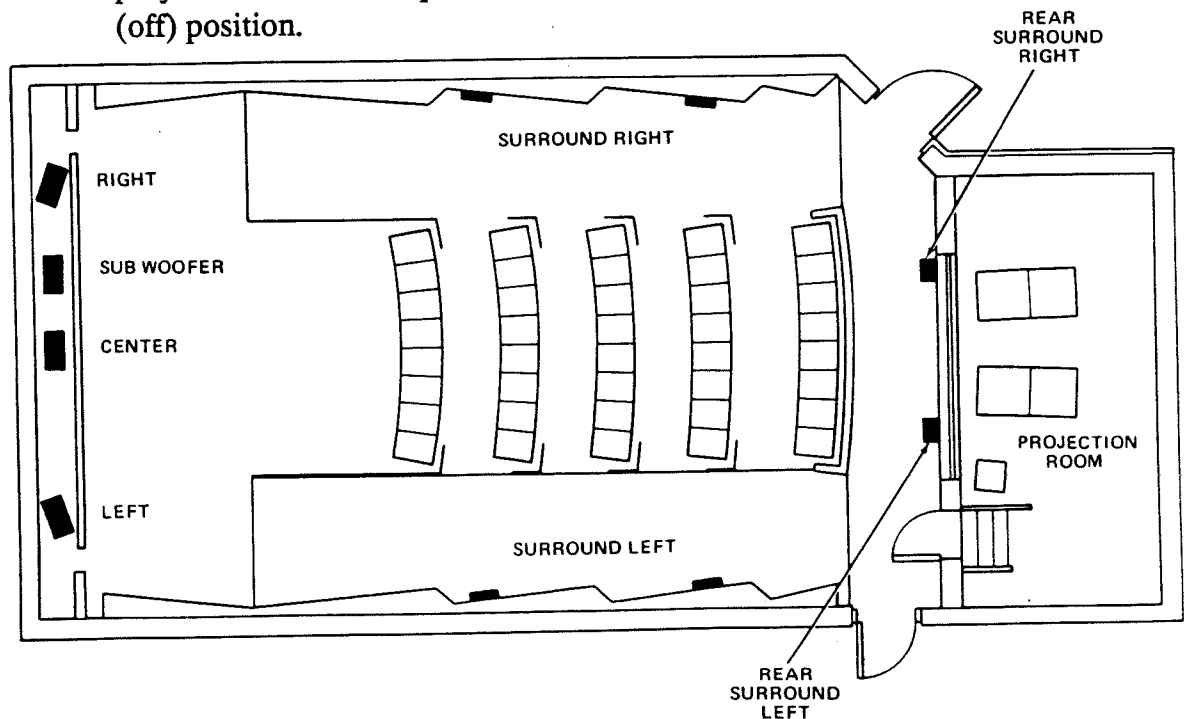
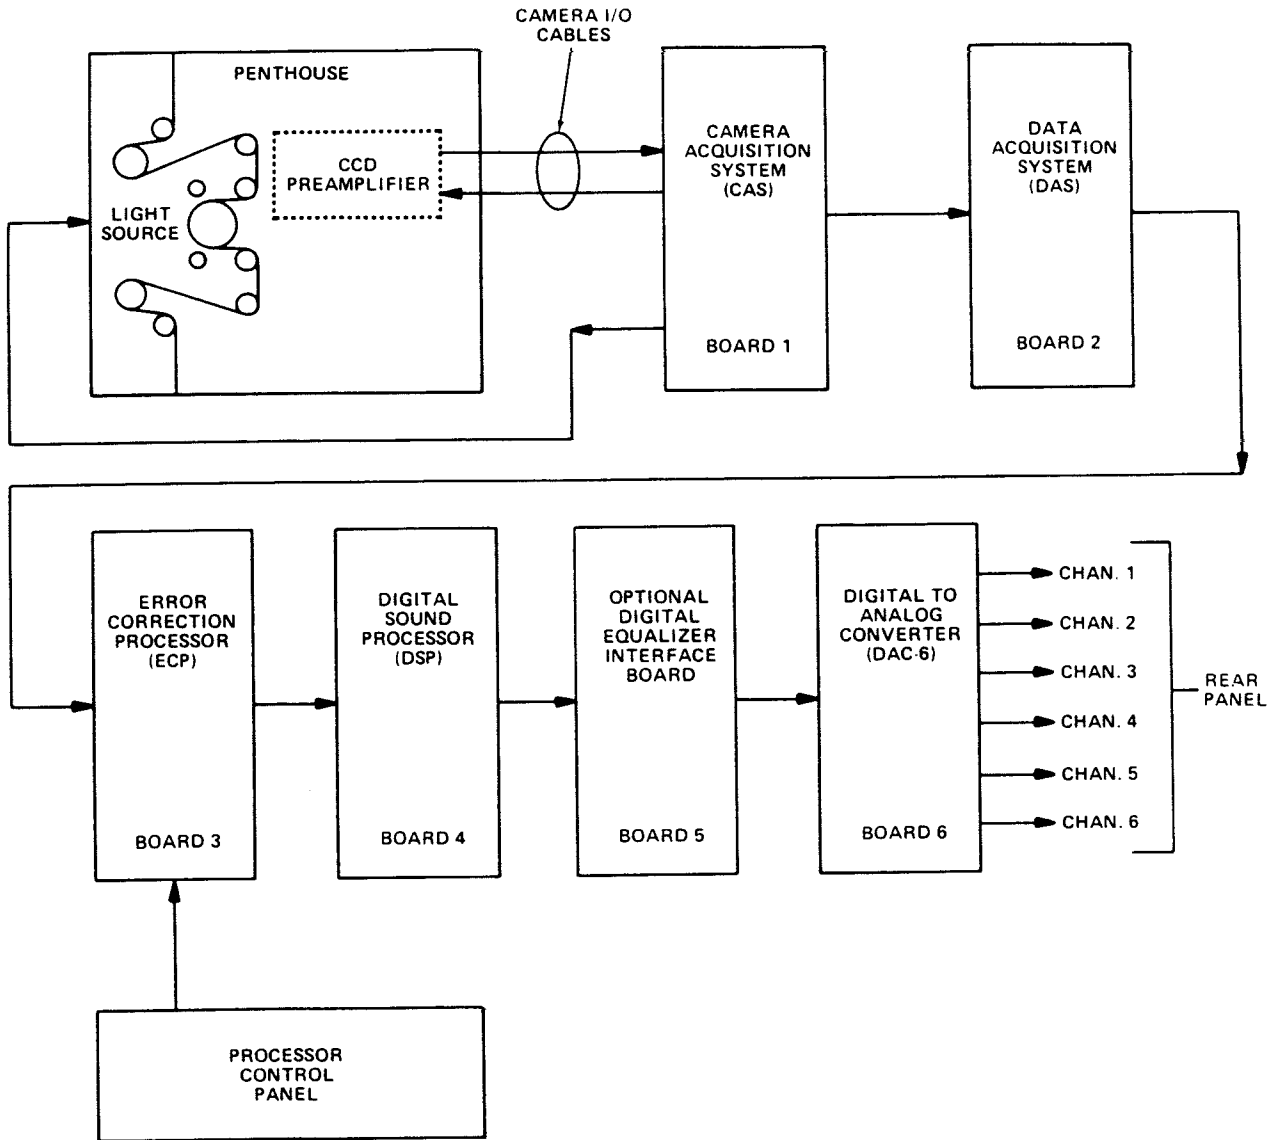
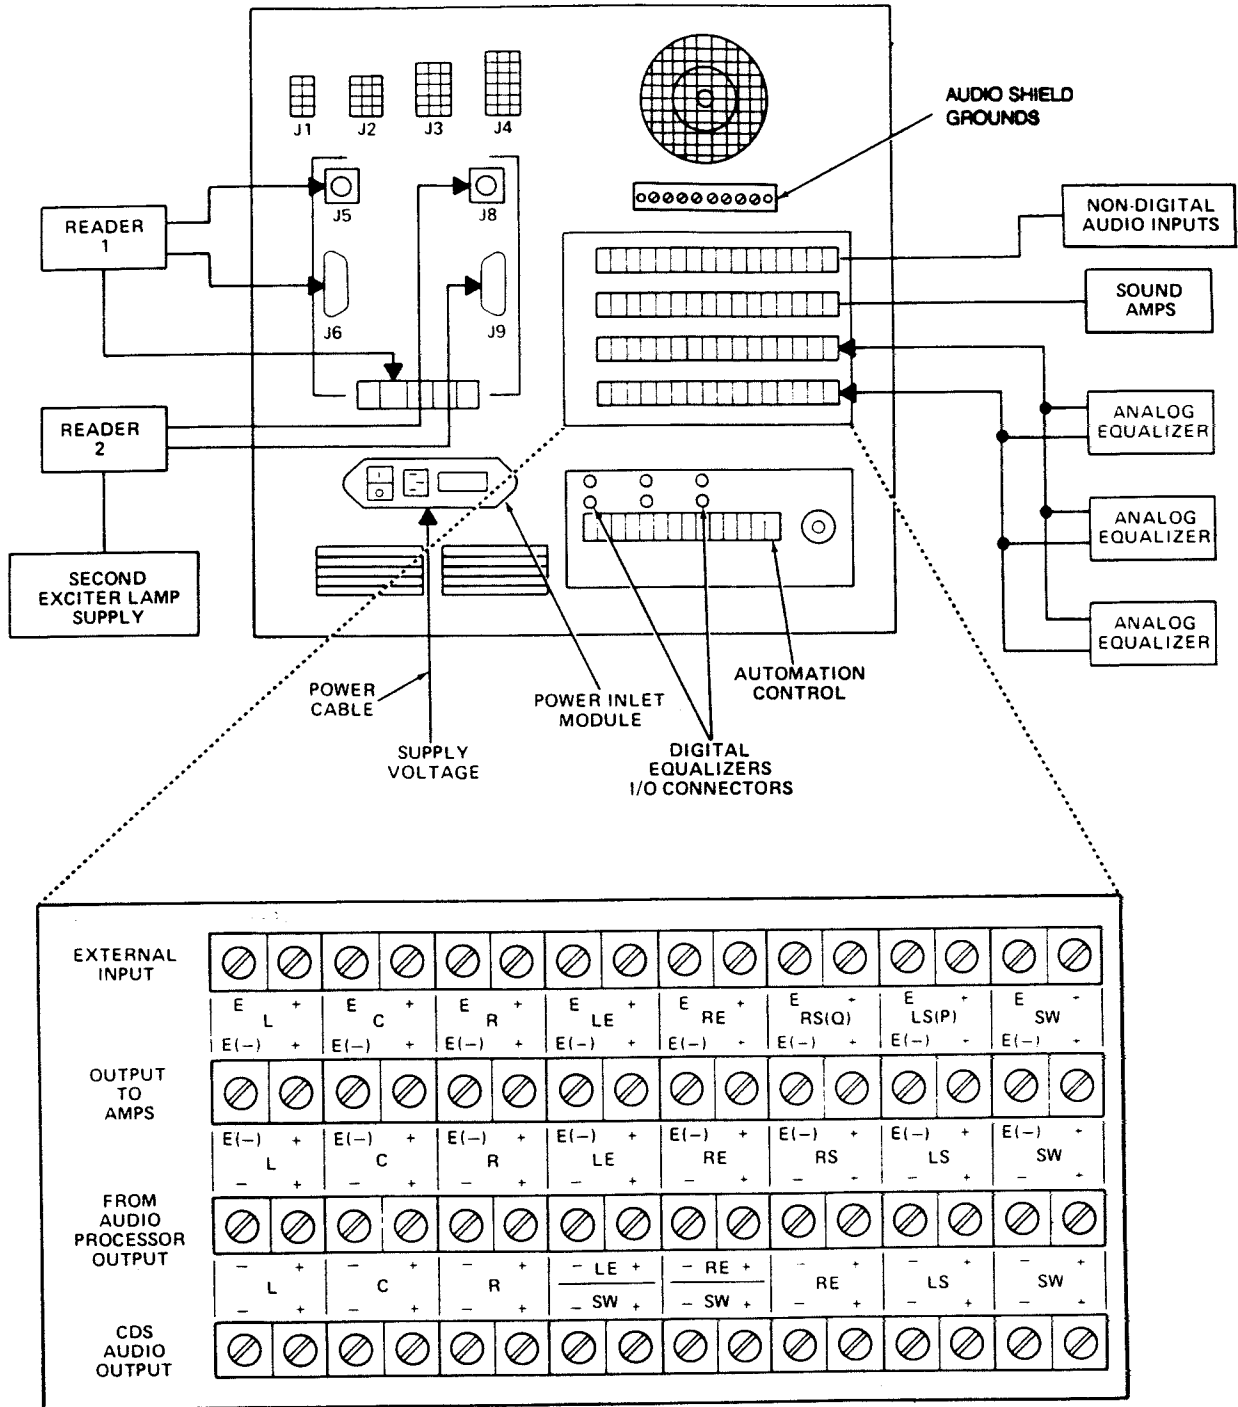

Figure 3-1. CDS Channel Assignment
Figure 3-2. Block Diagram - CDS System
Figure 3-3. Interconnecting Cabling Diagram
During the preparation for installation, refer to figure 3-1 for channel assignments to be found in a typical auditorium. See figure 3-2 for a simplified block diagram of the Model CDP-1000 Digital Sound Processor system for basic system technical reference. See figure 3-3 for detailed interconnecting cabling.
- b. Make sure that there is adequate room for access to the power inlet module on the back of the Processor (see figure 3-3).
1. Disconnect the power cord from the power entry module on the rear of the Processor (see figure 3-3).